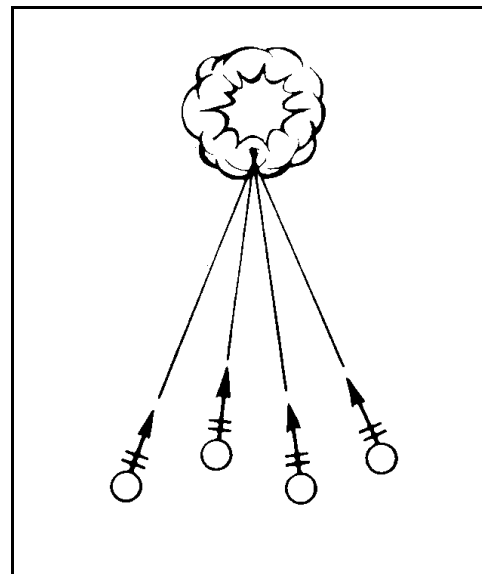

Figure 4-2. Converged sheaf.
b. **Converged Sheaf.** The converged sheaf (Figure 4-2) is normally used on a point target such as a bunker or machine gun position. It causes rounds from two or more mortars, each firing a different deflection, to impact at the same point.